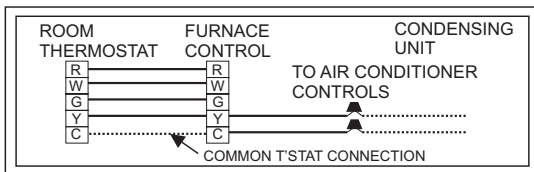

FIGURE 19: Line Wiring Connections
3. The furnace's control system requires correct polarity of the power supply and a proper ground connection. Refer to Figure 19.